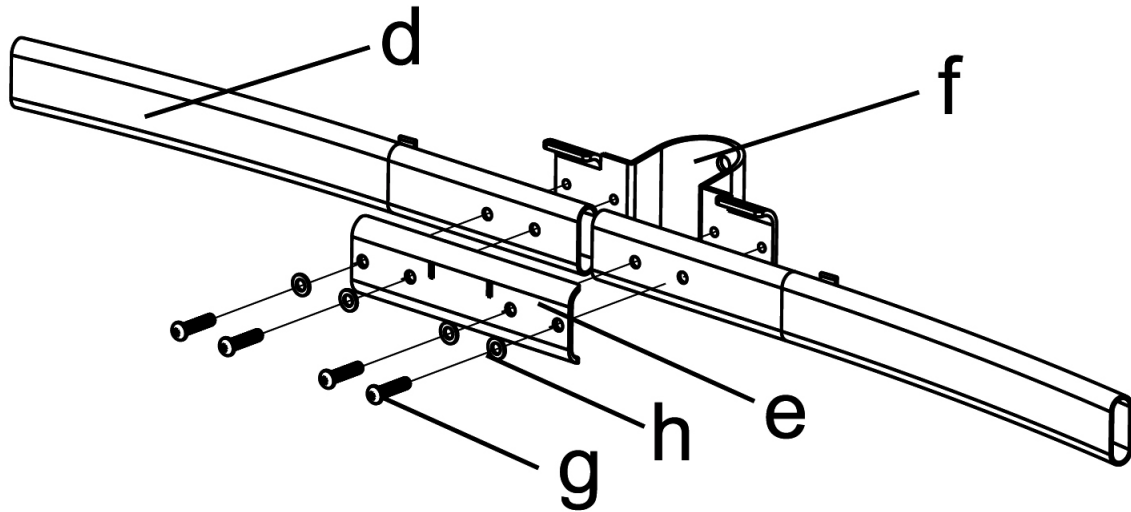

Figure 2a
1. Assemble the Curved Arms (d), Arm Connector Plate (e), Arm Clamp (f) and fasten with M6x25 Bolts (g) and M6 Washers (h) using Allen Key (o) as shown in Figure 2a.